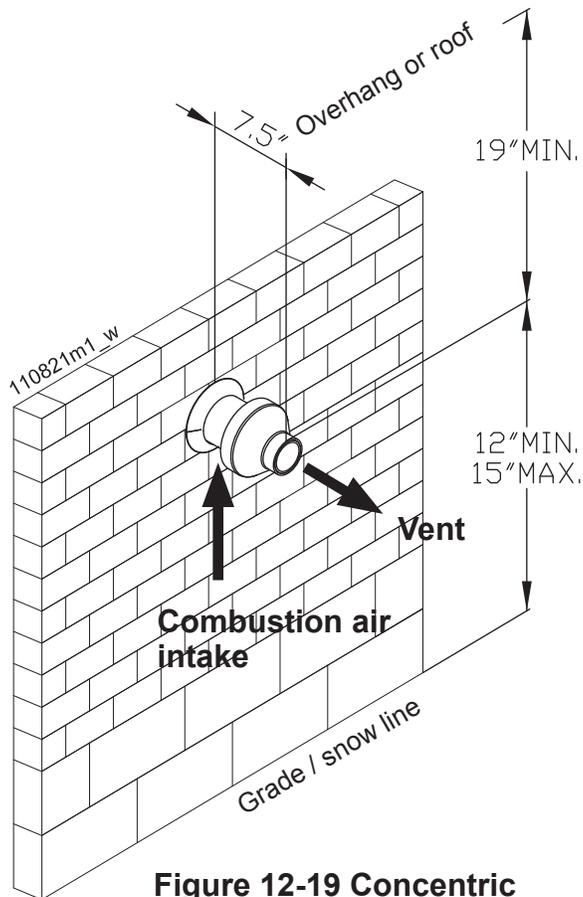

Figure 12-19 Concentric sidewall termination clearances
The termination kit must terminate outside the structure and must be installed as shown in Figure 12-19.
- Determine the best location for the termination kit (see Figures 12-19 and 12-20).
- Cut one (1) hole 5 inch diameter into the structure to install the termination kit.
NOTICE! Ensure termination location clearance dimensions are as shown in Figures 12-19 and 12-20.